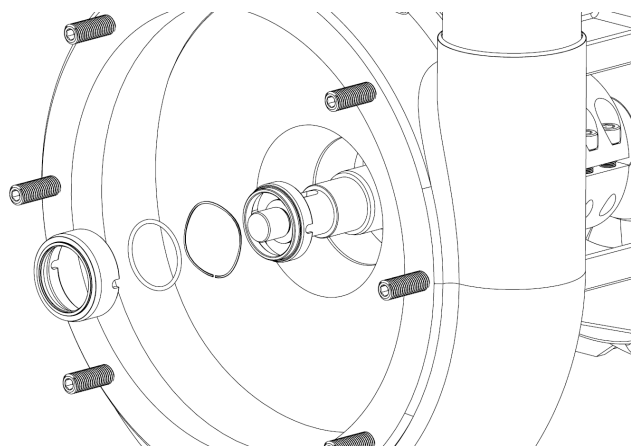

Figure 28
1. Slide the rotating double driver onto the stub shaft, the rotating double spring, the rotating double o-ring and then the rotating double seal in this order one component at a time figure 28.